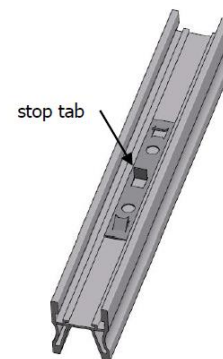

Fig 4.2.1A: Rail Joiner
- I. To increase the array length, rails can be spliced together using rail joiners [Fig 4.2.1A].